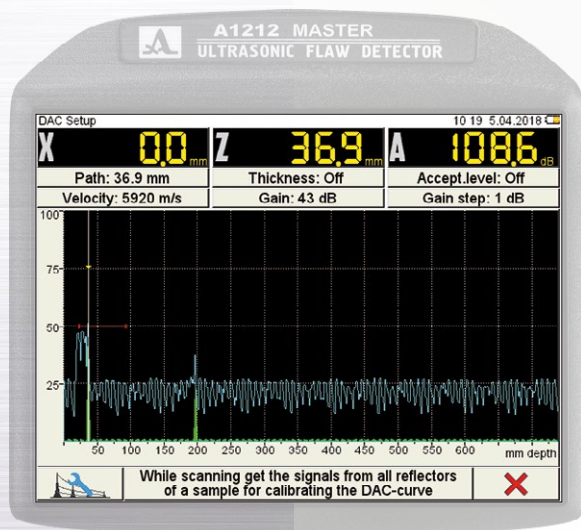

Figure 26
- press the **Settings** key, at that the first anchor point will appear on the peak value of the signal (Figure 26);